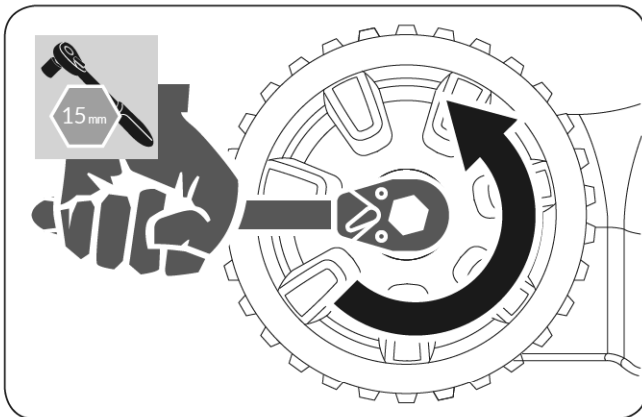

**Figure 27**
- Remove the rear end of the V-belt. Replace the new belt and restore it. (See **Figure 27**)